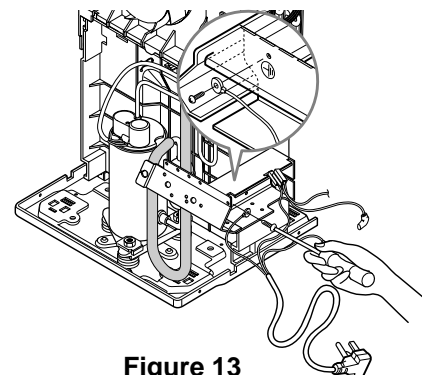

Figure 13
2. Disconnect housing and all leads of power cord then remove it from the unit. (See Figure 13)